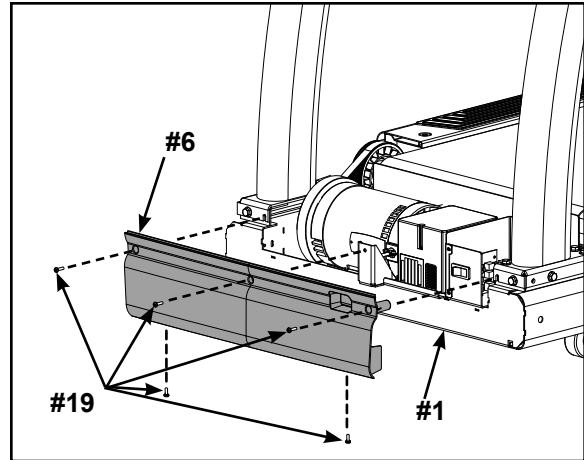

Figure 9
- A. Locate the front motor cover (#6) and five screws 10-32 x .75" (#19). See Figure 9.
- B. Using a Phillips screwdriver partially tighten the front motor cover (#6) to the base (#1) with five screws 10-32 x .75" (#19). See Figure 9.